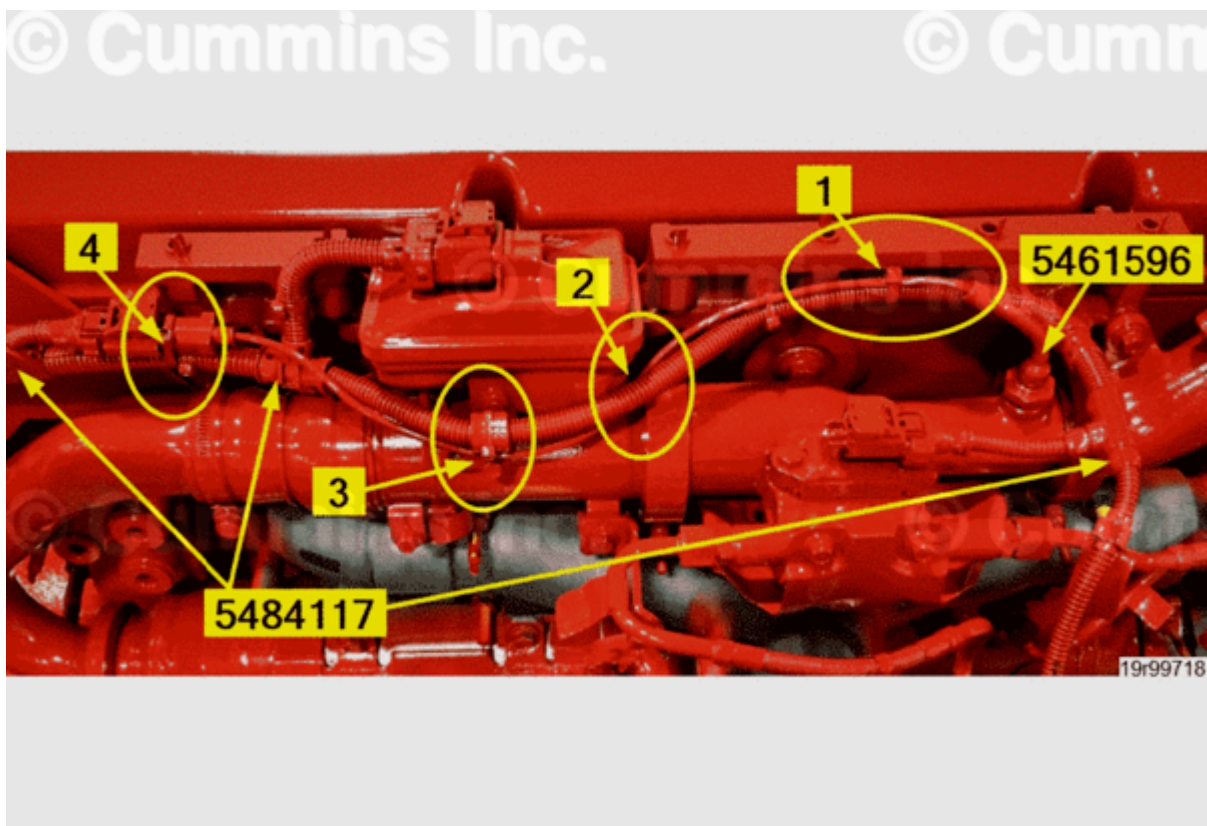
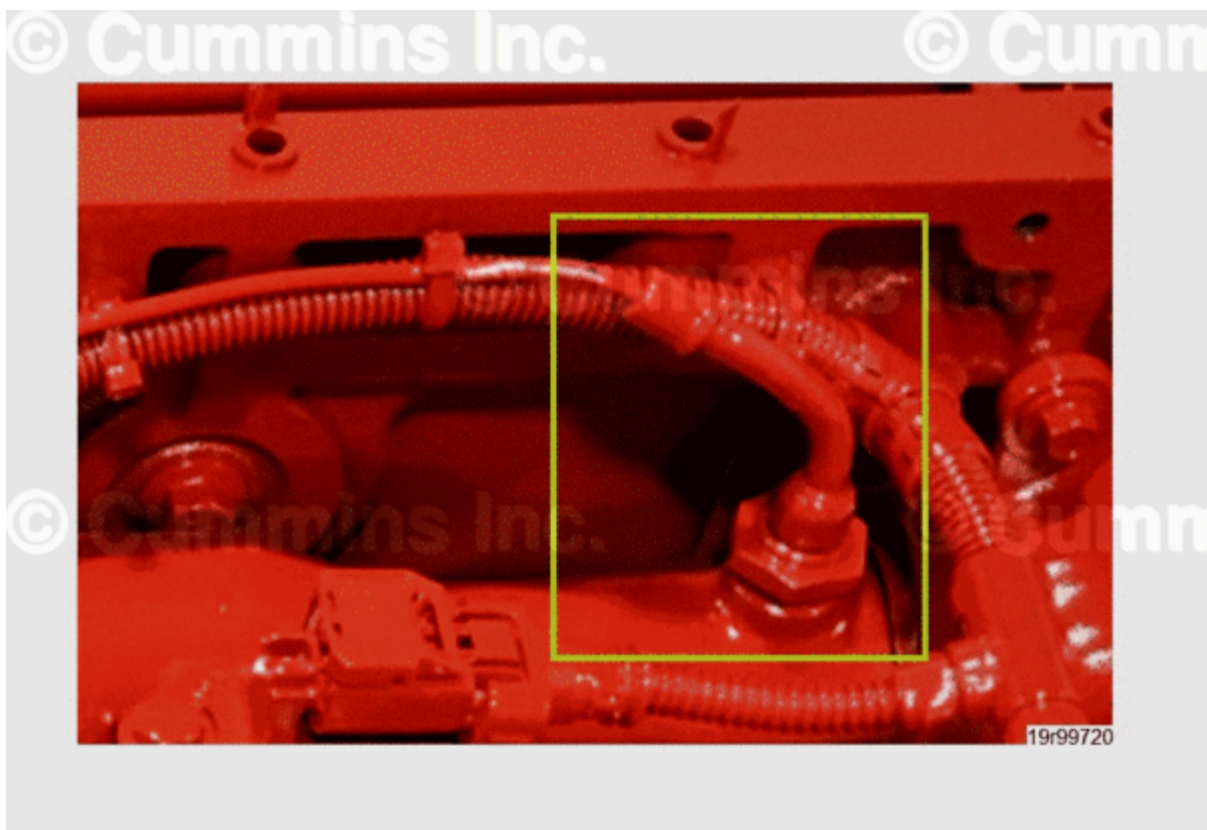

Figure 1, New Engine Wiring Harness, Part Number 5484117 and New EGR Temperature Sensor, Part Number 5461596.
Figure 3, New Production EGR Temperature Sensor, Part Number 5461596.
If the existing EGR temperature sensor requires replacement due to engine wiring harness compatibility, see Figure 1 below and Routing Instructions, to securely route and tie down new EGR temperature sensor lead cable.
- Figure 3 above shows the new production version of the EGR temperature sensor, Part Number 5461596. The sensor connector **must** be held in place with one wire tie as shown above in Figure 1.